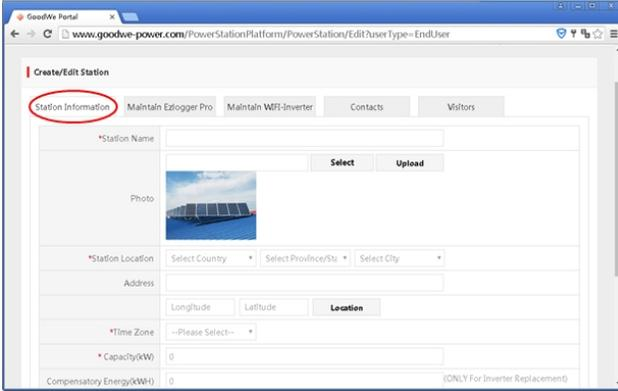

Figure 7.1-2 Create and Edit Power Station
Step 2: After user registration is completed, log on to enter the “Create/Edit Station” interface. Fill in each entry of “station Information” field correctly according to the requirements, as shown in Figure 7.1-2.